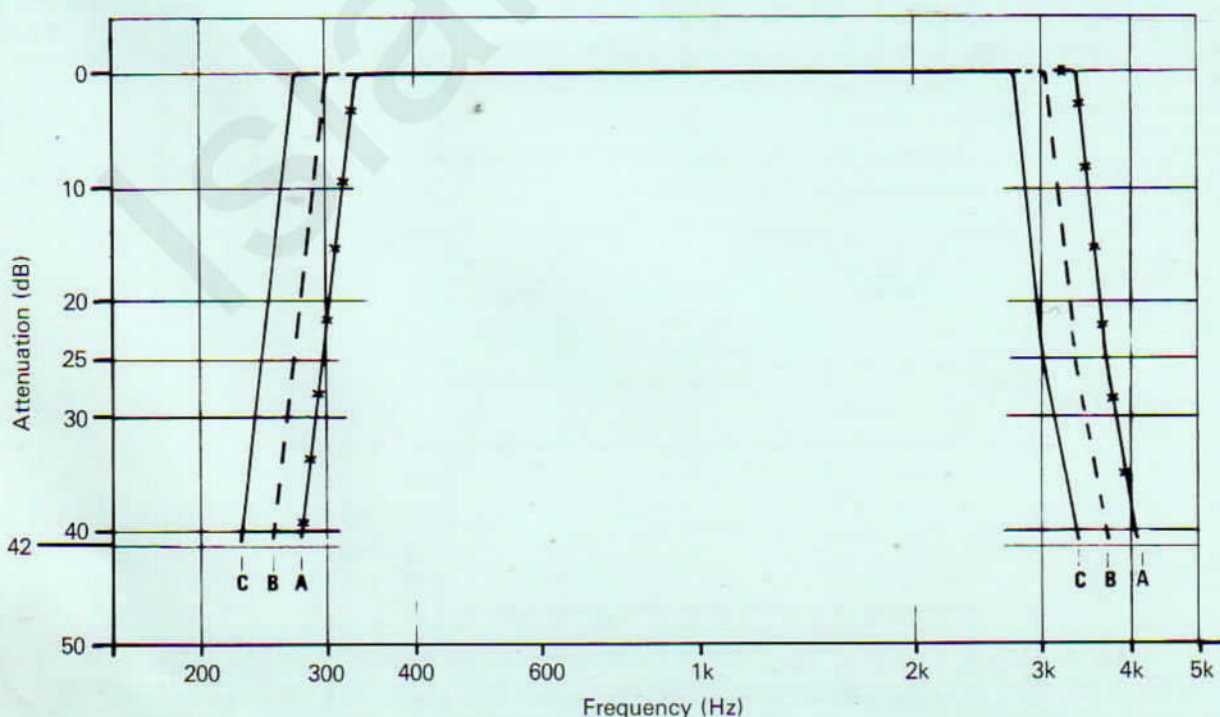

Fig. 5 Typical Audio Bandpass Filter Responses (1 Filter)
5. All bandpass filters display similar performances. See figure 5.